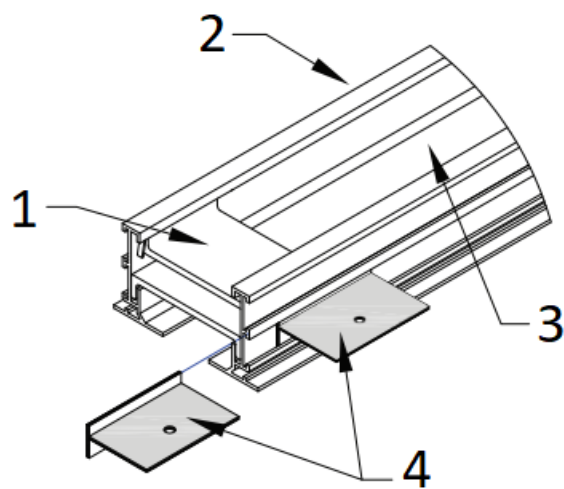

Figure 3. Installing Hard Ceiling Clips
- Slide the Hard Ceiling Clips into the lower track on the outside of the frame of each diffuser frame rail as shown in Figure 3.